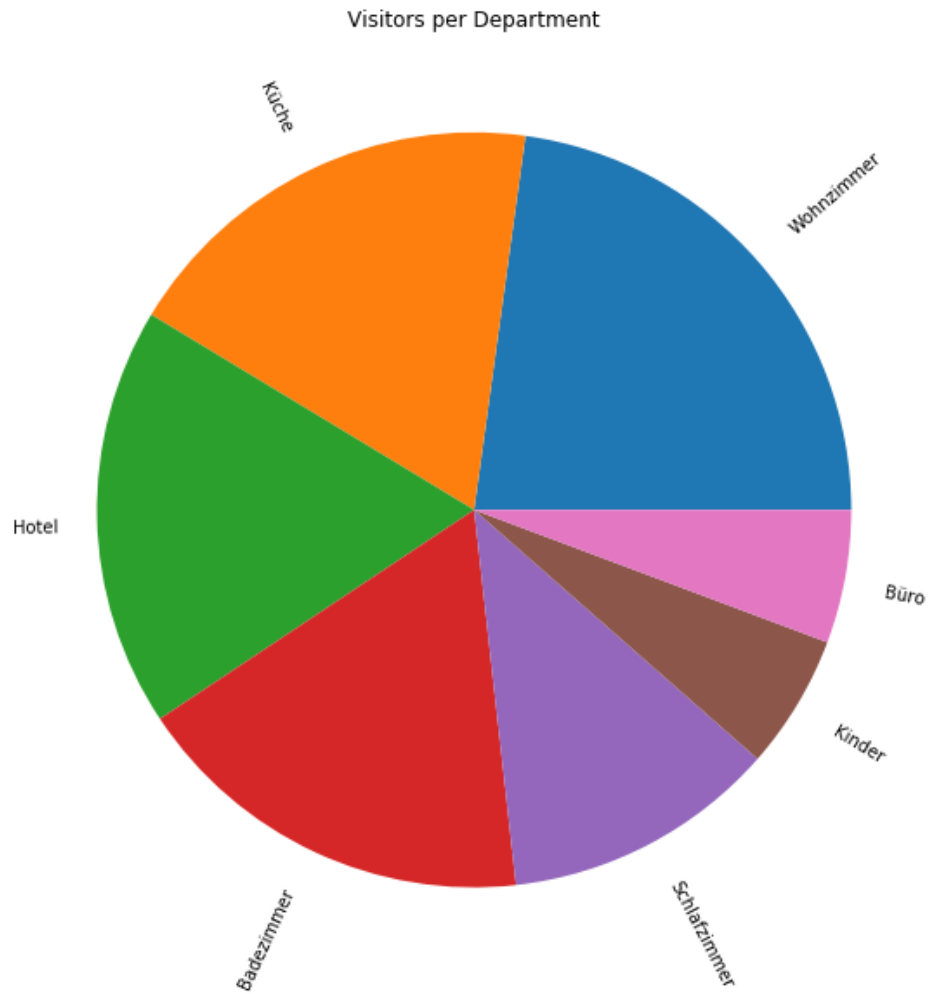

Figure 10: Visitors per Department
- Which department are the customers the most interested in? Fig. 10
The next figure 10 visualizes the number of visitors by department. One can see that Living room, Kitchen, Hotel and Bathroom have similar numbers, whereas Children and Office are a lot smaller.